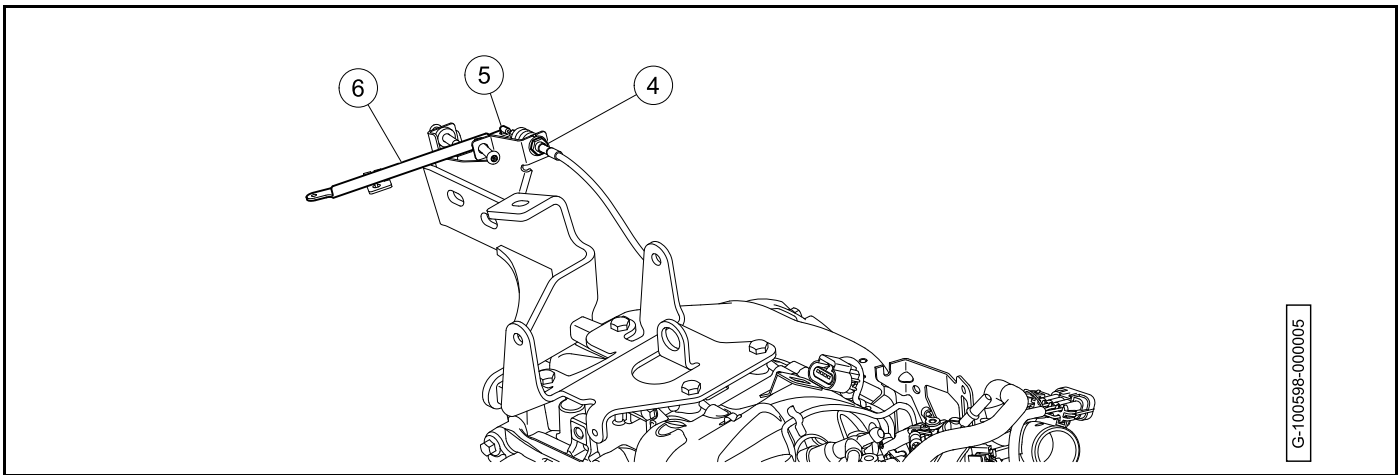

Figure 21-4 Governor Cable Installation - Governor Arm
- 2.1. Slide bellows off threaded end of cable housing, separate jam nuts and place threaded end into governor bracket (4) (**Figure 21-4, Page 21-4**).